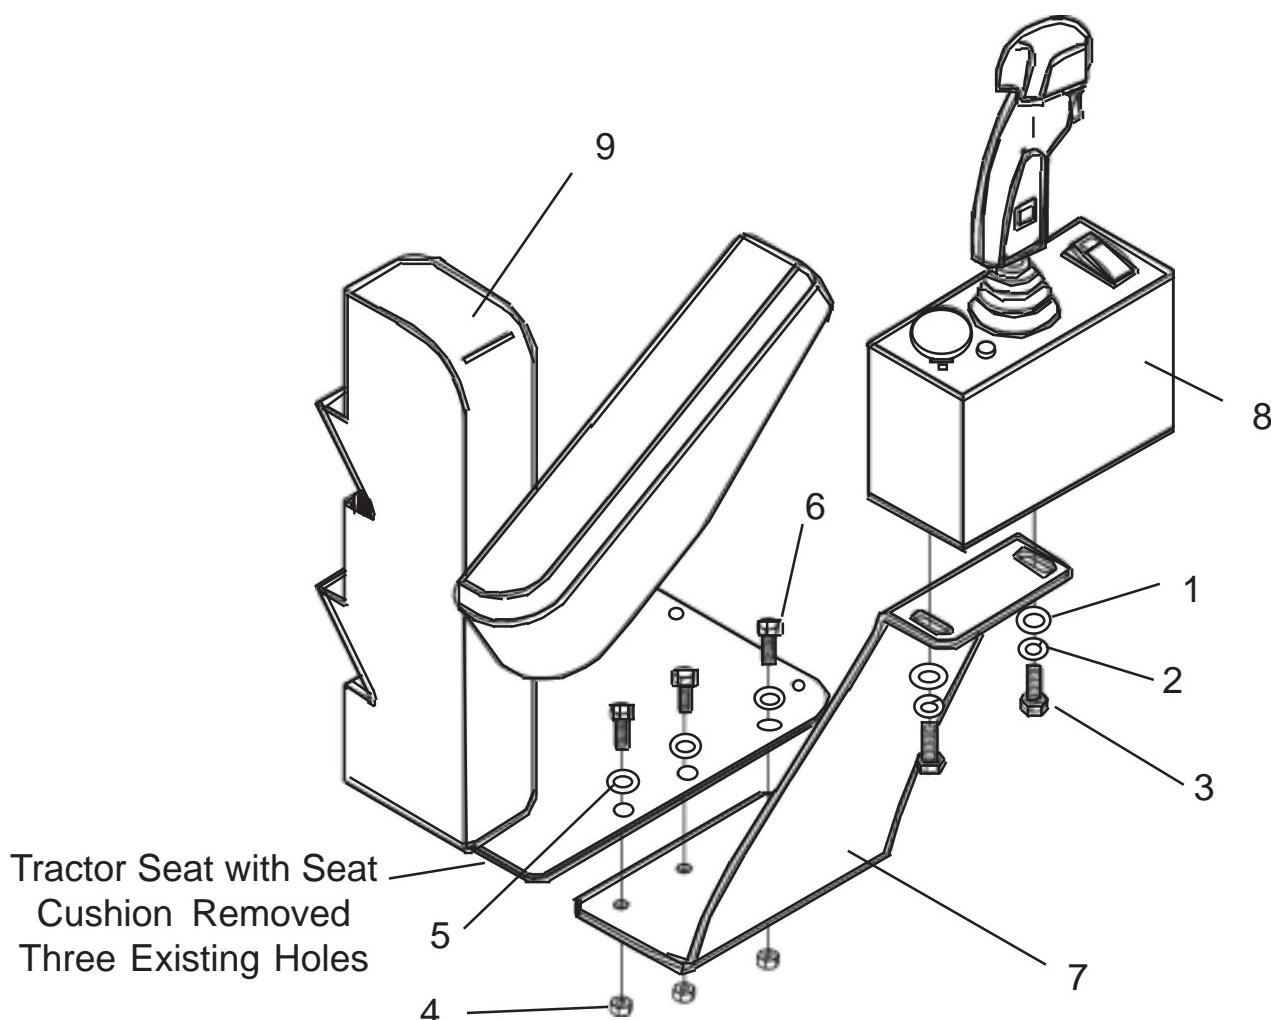

FIGURE 1
6. The control lever assemblies will bolt together to form a group of handles, there will be 4 for the 4 spool valve and 5 for the 5 spool valve. Also the "ON" and "OFF" Switch will bolt to the Handles (See Figure 1 & 4)
Find the two 3/8" bolt, put Lockwasher and Flatwasher on them. Start these bolts from the bottom up through Bracket and into Joystick Console. The Joystick Console holes are threaded so no Nuts are needed. Tightened the two retaining Bolts (See Figure 1 Item 3 and Figure 2).